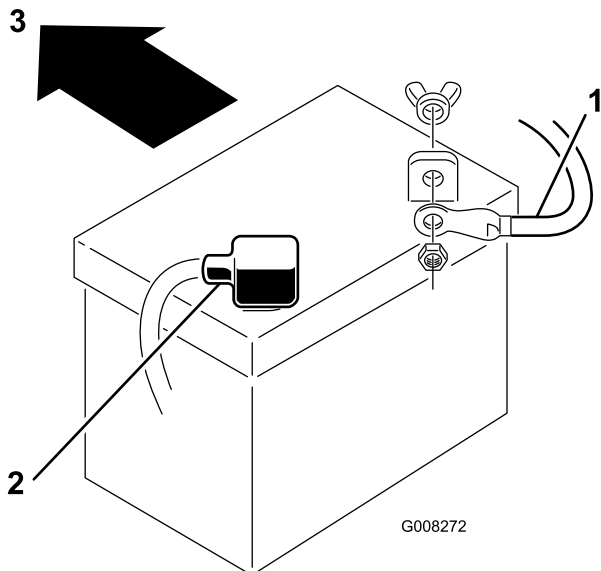

Figure 33
7. Disconnect the negative (black) ground cable from the battery post (Figure 33).
9. Disconnect the positive (red) cable from the battery post (Figure 33).
1. Place the battery into the chassis with the battery posts toward the rear of the machine (Figure 33).
3. Using the bolt and wing nut, connect the positive (red) cable to the positive (+) battery post (Figure 33). Slide the rubber cover over the battery post.
4. Using the bolt and wing nut, connect the negative (black) cable to the negative (–) battery post (Figure 33). Slide the rubber cover over the battery post.